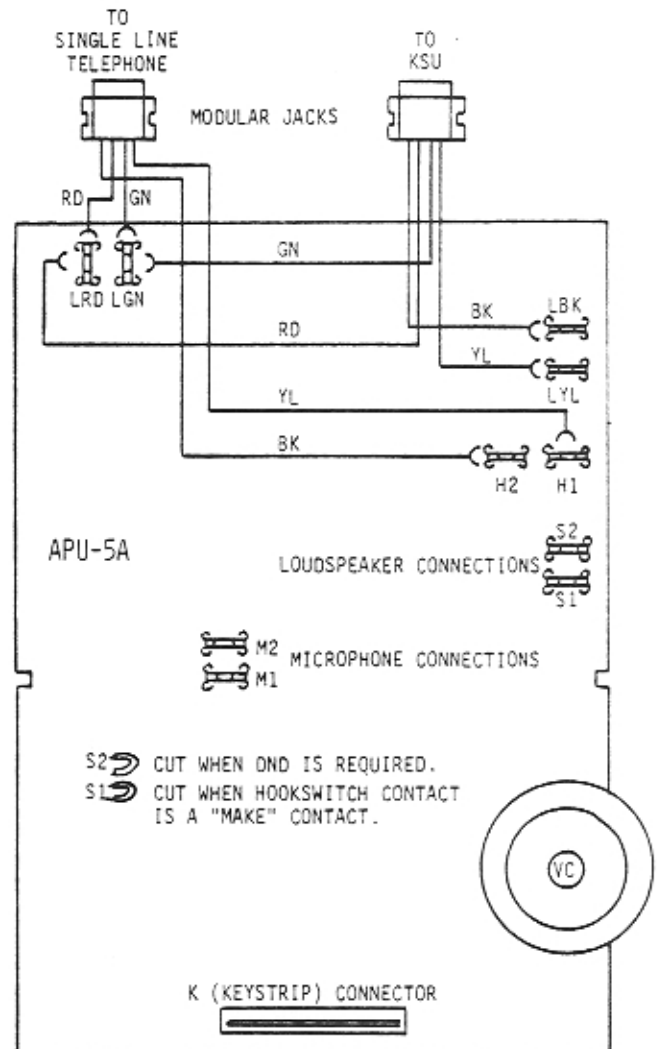

Figure 10 - APU-5A Abbreviated Card Layout
- i) If the YL/BK leads to the telephone are connected to a "make" contact on the hookswitch assembly, cut the strap shown in figure 10 for the hookswitch option.
- j) If the DND feature is required at the station, cut the strap shown in figure 10 for the DND option.